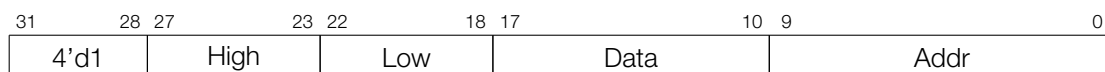

Figure 155: Instruction Type – REG\_WR
**Operand**    **Description** - see Figure 155